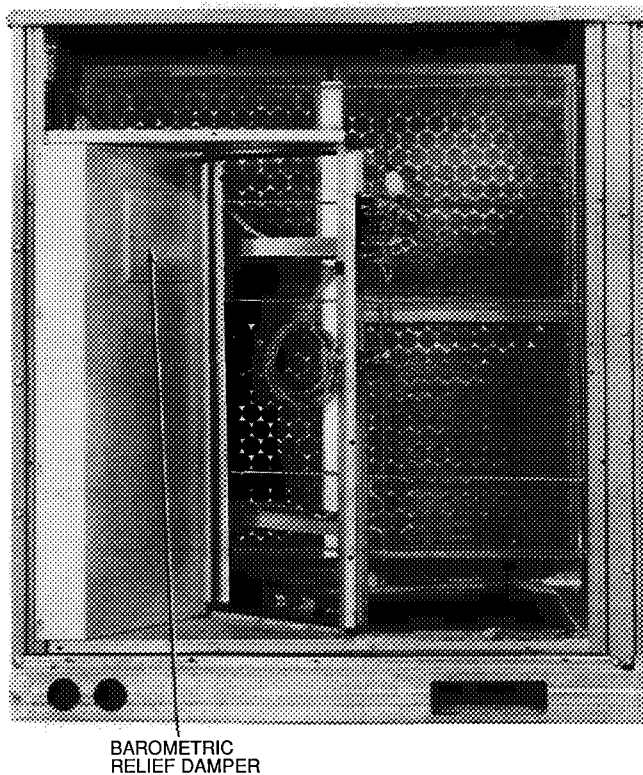

Fig. 20 – Horizontal Economizer Installation (90 Degree Rotation)
- b. Rotate economizer 90 degrees until economizer motor faces condenser section (see Fig. 20). If necessary, disassemble economizer to replace filter.